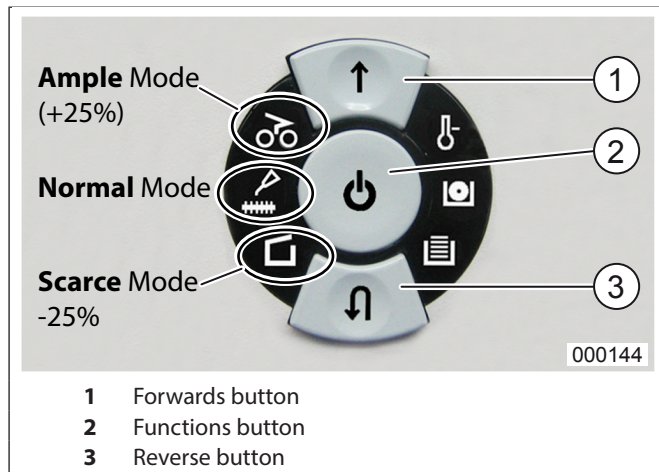

fig.5 Customization of automatic oiler output
3. Press and hold the forward button (fig.5/1) and the reverse button (fig.5/3) simultaneously.
4. Additionally press and let go of the function button (fig.5/2).
6. Press the forward button **twice** (fig.5/1).
7. Press the function button (fig.5/2) so often until the needed oiler output mode comes on.
8. Press the reverse button (fig.5/3).
If you want to continue shredding turn the machine on: press the function button (fig.5/2) briefly.